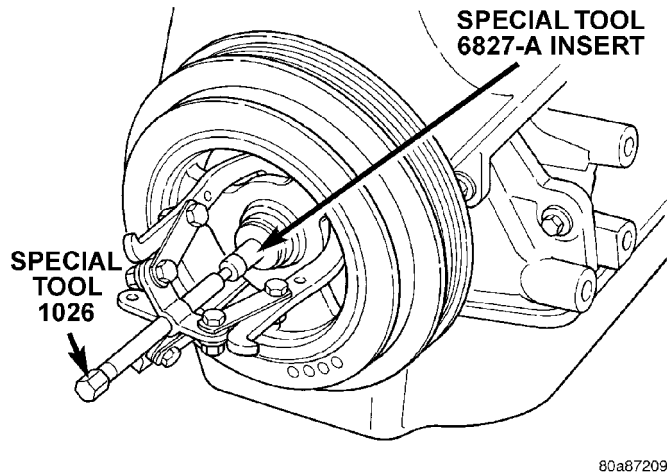

Fig. 87 Crankshaft Damper—Removal
(3) Remove crankshaft damper bolt. Remove damper using the large side of Special Tool 1026 and insert 6827-A (Fig. 87).